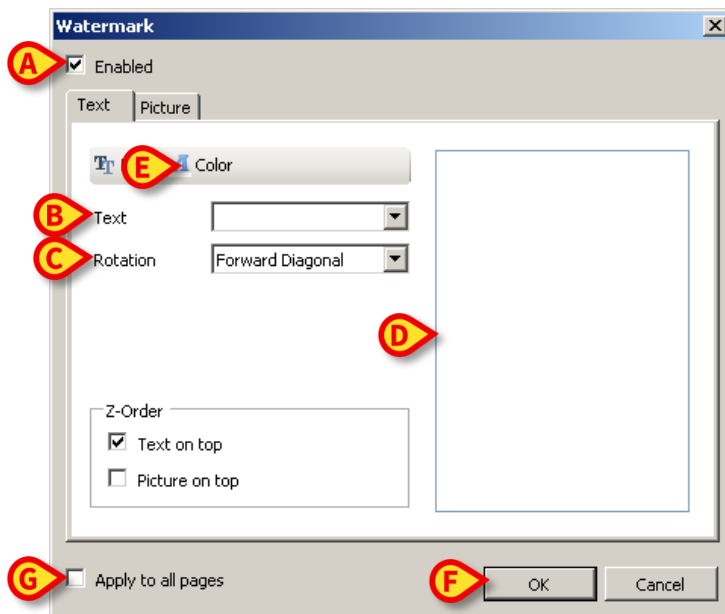

Fig 26
The following window is displayed (Fig 26).
- Ensure that the “**Enabled**” checkbox is checked (Fig 26 **A**). If not, the window’s contents cannot be edited
- Insert the text in the “**Text**” field (Fig 26 **B**)
- Use the “**Rotation**” menu (Fig 26 **C**) to specify the watermark orientation (diagonal, horizontal, vertical)
A print preview is displayed in the area indicated in Fig 26 **D**.
- Use the buttons indicated in Fig 26 **E** to select the watermark font and color
- Click the **Ok** button (Fig 26 **F**)
If the “**Apply to all pages**” checkbox is selected (Fig 26 **G**) the watermark is applied to each page in the document, otherwise it is applied only to the current page.